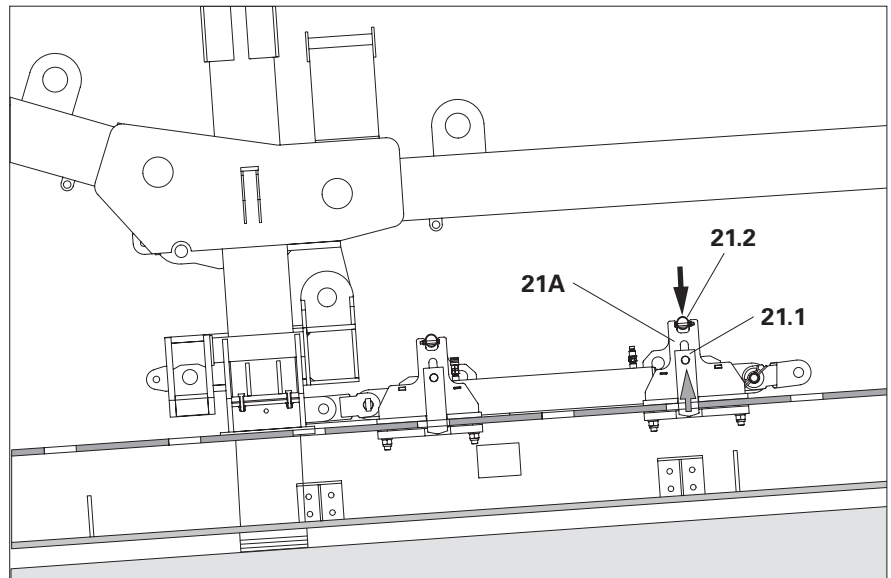

Fig. C2.04
1. Press the release lever (**21.2**) on the drive catch head (**21A**) downwards, thereby lifting the locking plate (**21.1**). (Fig. C2.04)